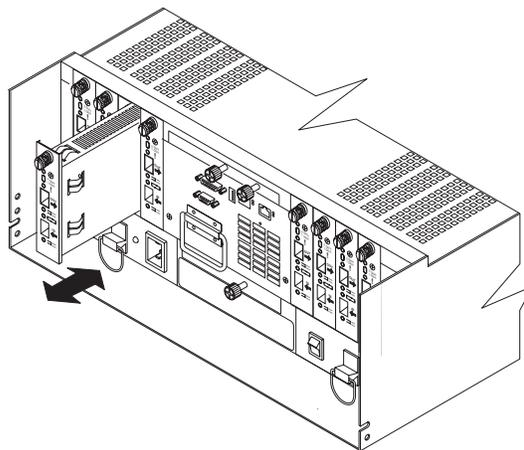

Figure 52. Removing and installing a mini-hub
The mini-hubs are located on the back of the DS4400 Storage Server (see Figure 52 on page 64). A mini-hub is a single, removable unit that provides the Fibre Channel interface between a DS4400 Storage Server and hosts or drives. The back of the DS4400 Storage Server can accommodate eight mini-hubs: up to four host-side and up to four drive-side mini-hubs. Each mini-hub has two ports. An SFP module is installed in a mini-hub port; then, a fiber-optic interface cable is connected into the SFP module. For more information, see “Fibre Channel connections” on page 4 and “Small Form-Factor Pluggable (SFP) Modules” on page 58.
4. Loosen the captive screw on the mini-hub; then, grasp the screw and remove the mini-hub from the chassis, as shown in Figure 52.